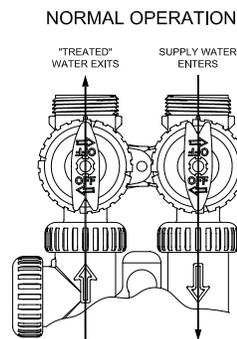

figure 1
1. Normal Operation Position: The inlet and outlet handles point in the direction of flow indicated by the engraved arrows on the control valve. Water flows through the control valve during normal operation. During the regeneration cycle, this position also allows the control valve to provide regeneration water to the filter while also providing untreated water to the building plumbing system. (see figure 1)
When water is flowing steadily to drain, clear and without the presence of air, plug the transformer into the receptacle to restore power. Momentarily press  again. Display will read **RINSE**. Place the bypass valve in the **NORMAL OPERATION MODE** (see figure 1 on page 4). Allow filter control valve to finish the **RINSE** cycle and automatically advance to the **FILTERING** position.
After at least an hour has passed (if using katalox-light) and when water is flowing steadily to drain, clear and without the presence of air, plug the transformer into the receptacle to restore power. Momentarily press  again. Display will read **REGENERANT DRAW DN; allow this 30 minute cycle to complete.** This allows a head of air to form inside the filter tank for the air over mineral filter to function properly. The filter tank has an air blocker device installed inside the top dome that blocks air from re-entering the control valve body thereby reducing iron oxidation in the control valve and extending the valves service life. The filter control valve will automatically advance to the **FILTERING** position and the display will change color, from SOLID GREEN to SOLID BLUE. Place the bypass valve in the **NORMAL OPERATION MODE** (see figure 1 on page 4).
The EOG generator is an enhancement of the air over mineral filter; the controlled amount of ozone in the filter will increase the oxidation process while providing anti-microbial protection against "nuisance" bacteria* slime buildup within the filter tank and the odors related to the buildup. The filter tank has an air blocker device installed inside the top dome that blocks ozone from re-entering the control valve body thereby reducing iron oxidation in the control valve and extending the valve's service life. The filter control valve will automatically advance to the **FILTERING** position and the display will change color to SOLID BLUE. Place the bypass valve in the **NORMAL OPERATION MODE** (see figure 1 on page 4).